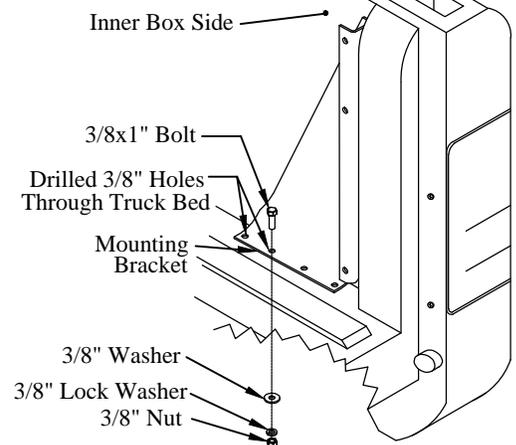

Figure 8: Mounting bracket.
Choose two of the four holes provided with no obstructions on the underside (Figure 8).
- (2) 3/8"x1" hex head bolts on the top-side (Figure 8).
- (2) washers, (2) lock washers, and (2) hex nuts on the under-side (Figure 8).